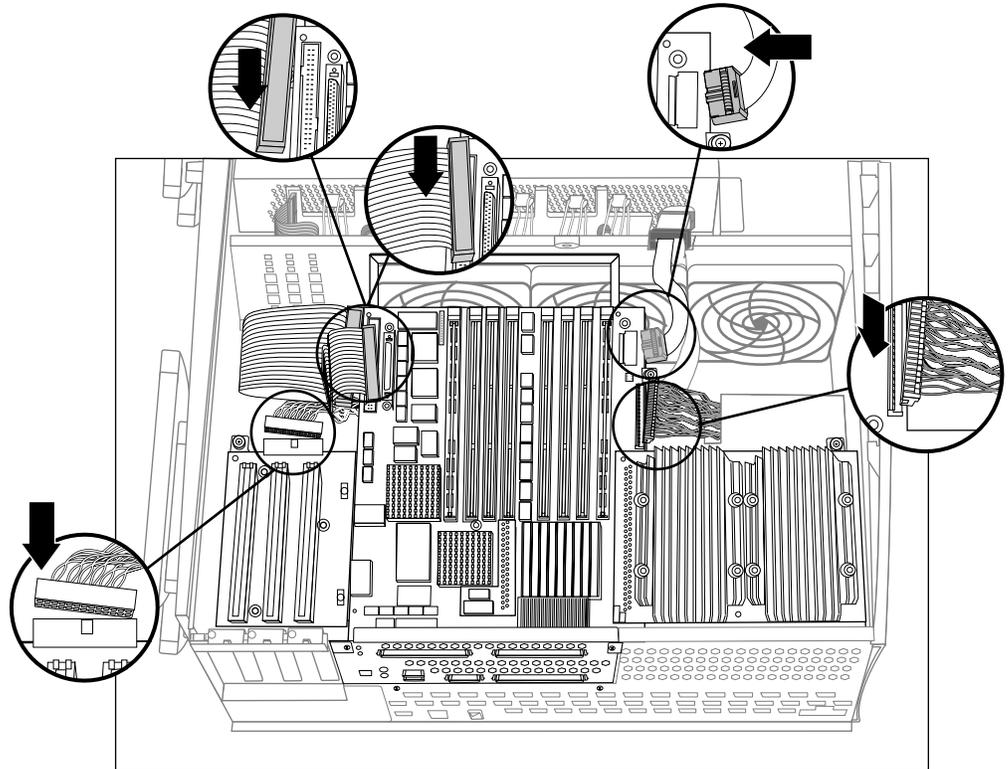

Figure 5-11 Attaching the Logic Carrier Cables
3. Attach the PCI power, SCSI controller, system controller, and system board power cables to the logic carrier, as shown in Figure 5-11.